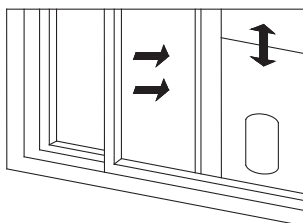

Fig. 5
1. Open half of the window and insert the sealing insert kit into the window, either vertically, or horizontally (fig. 5 and 6).